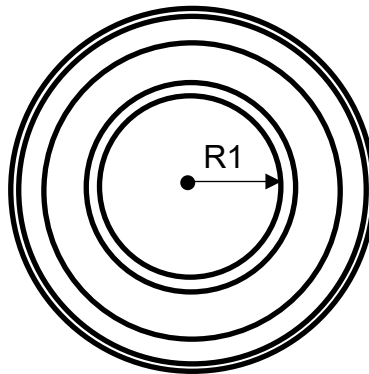

Figure Q1a
1. (a) (i) Index each of the rings in the selected area electron diffraction pattern for a Copper sample (fcc) shown in Figure Q1a. [4 marks]